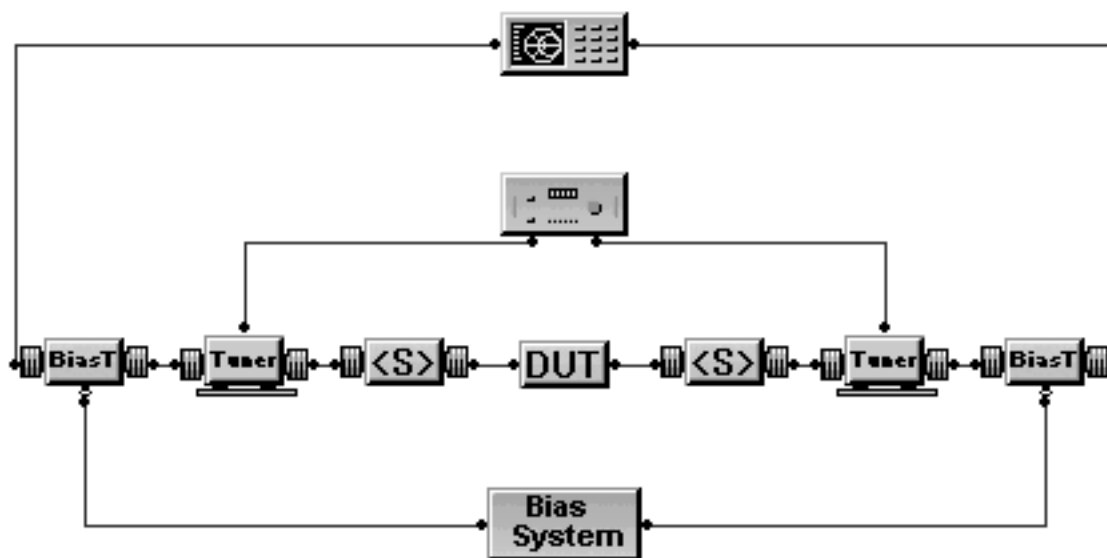
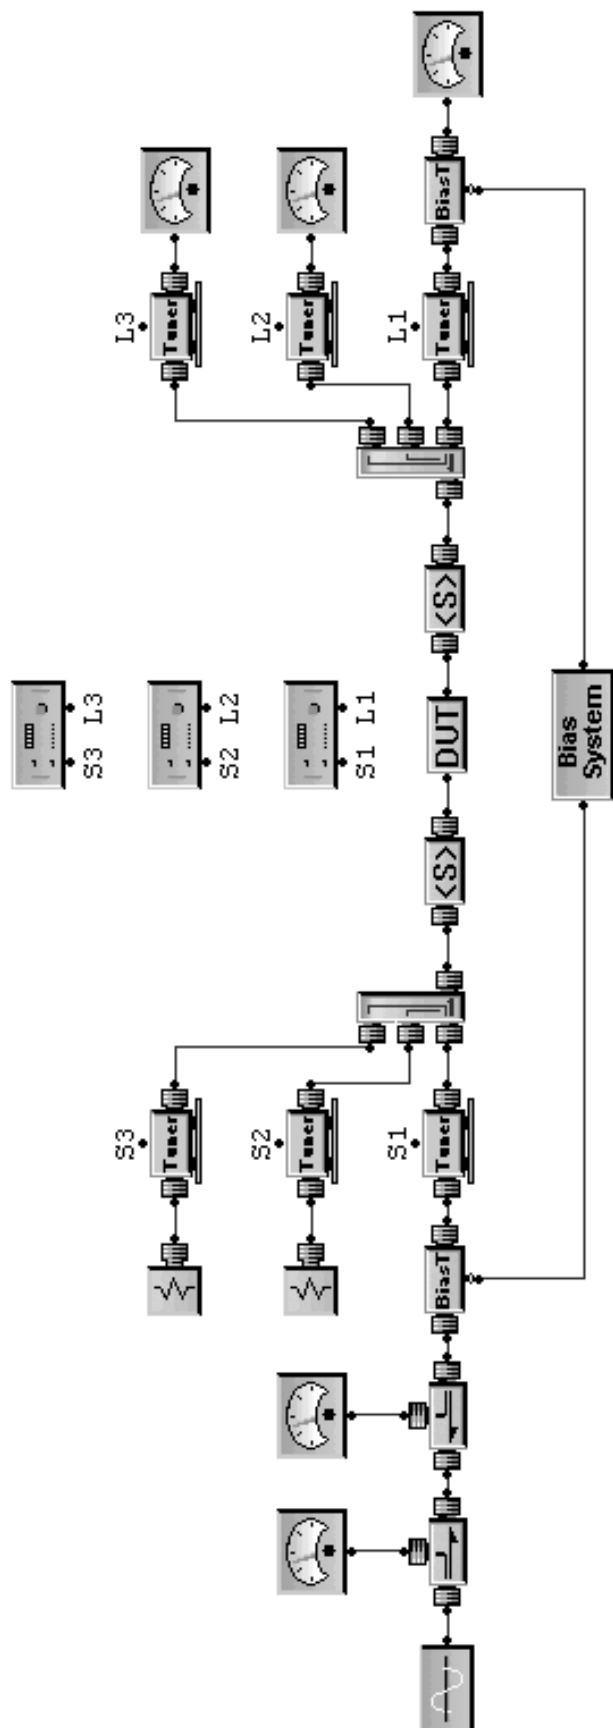

Figure 2-1. Typical Setup for Performing S-Parameter Measurements
Figure 2-6. Typical Setup for Performing Harmonic Tuning Measurements
2.1.2 The five types of RF measurements (s-parameters, noise, power, intermod and ACP) can be made from within the same program if all of the options are installed. However, they require separate setups as shown in Figures 2-1, 2-2, 2-3, 2-4 and 2-5. A basic power setup with harmonic load/source pull is shown in Figure 2-6.